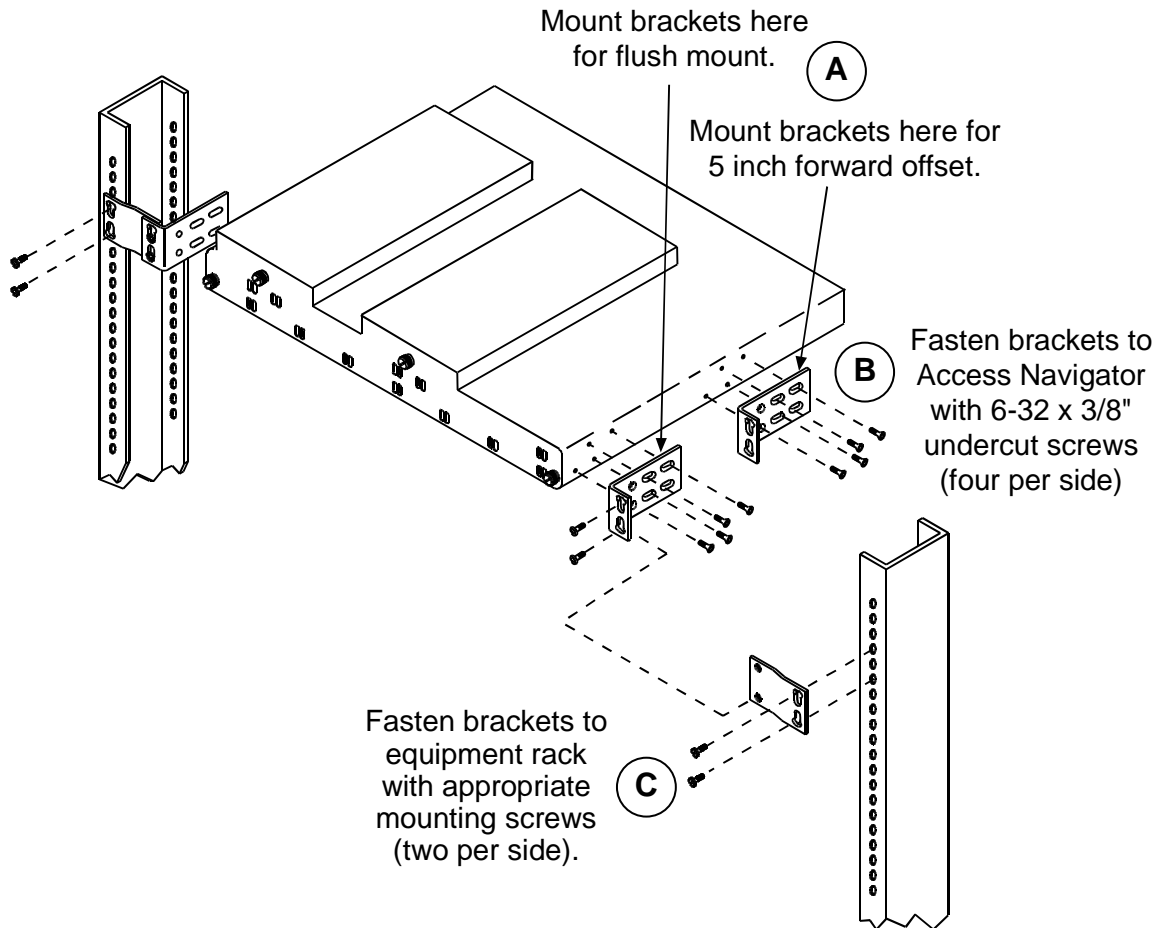

*Figure 5-4. Assemble Mounting Brackets*
1. Open bag containing universal rack mounting kit. It should contain the following items (see Figure 5-4):
2. Assemble mounting brackets for 23-inch racks (see Figure 5-4).